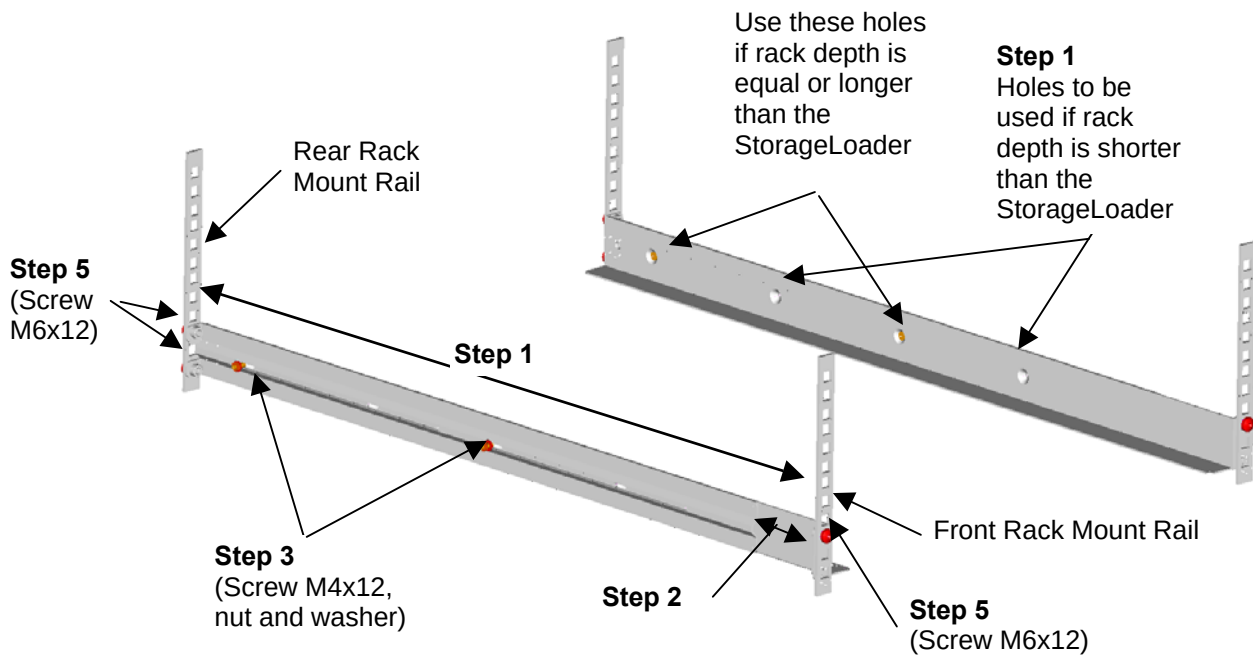

Figure 3.3 Mounting the Rack mounting kit to a rack
1. Measure the length between the rear rack mount rails and the front rack mount rails. If the measurement is shorter than the StorageLoader, move the two sets of screws M4x12, washers and nuts shown in Figure 3.3.